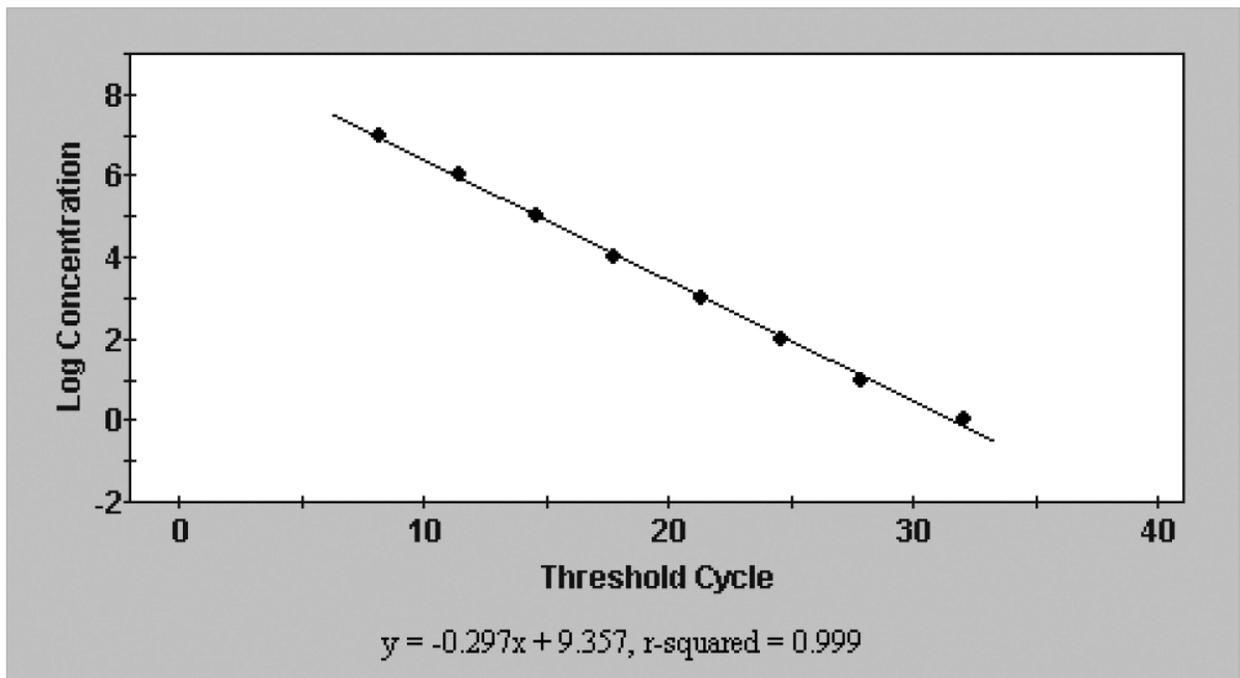

Figure 5. Standard curve for the λ DNA PCR amplification.
- Establishing the standard curve: After the reaction was completed, C_t values were calculated from the amplification curves and the standard curve was established (Figure 5).